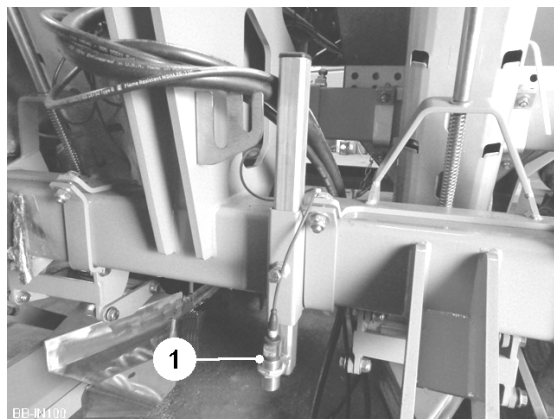

Fig. 18
The depth sensor (item 1, fig. 18) ensures that the desired planting depth is maintained irrespective of the contours of the bed.